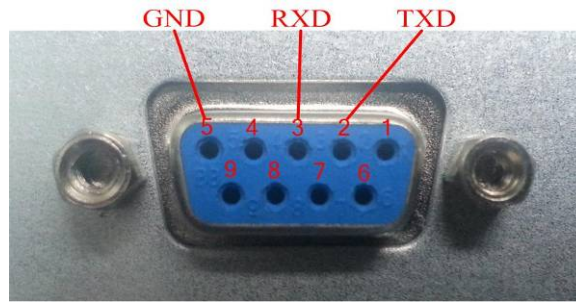

Fig1-4 Female type definition of RS_232Port
- 2) Female type holes' definition of RS_232Port is shown in Fig1-4.